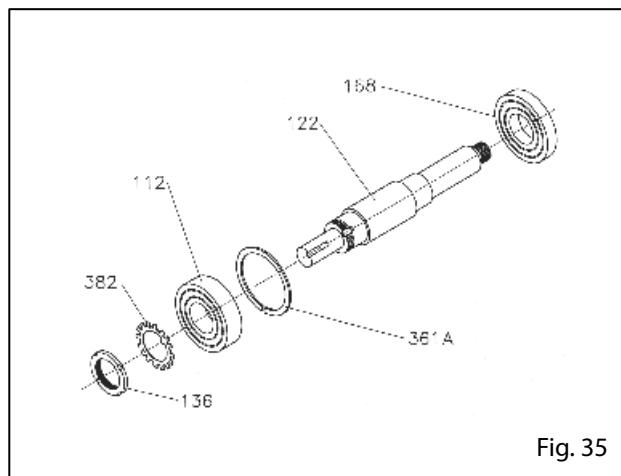

Fig. 35
- 4.- For 911S and 911M models: Place the lock through the end of the impeller towards the outside bearing, this lock is beveled at its outer diameter, you must position the flat side toward the outer bearing (see Figure 35).